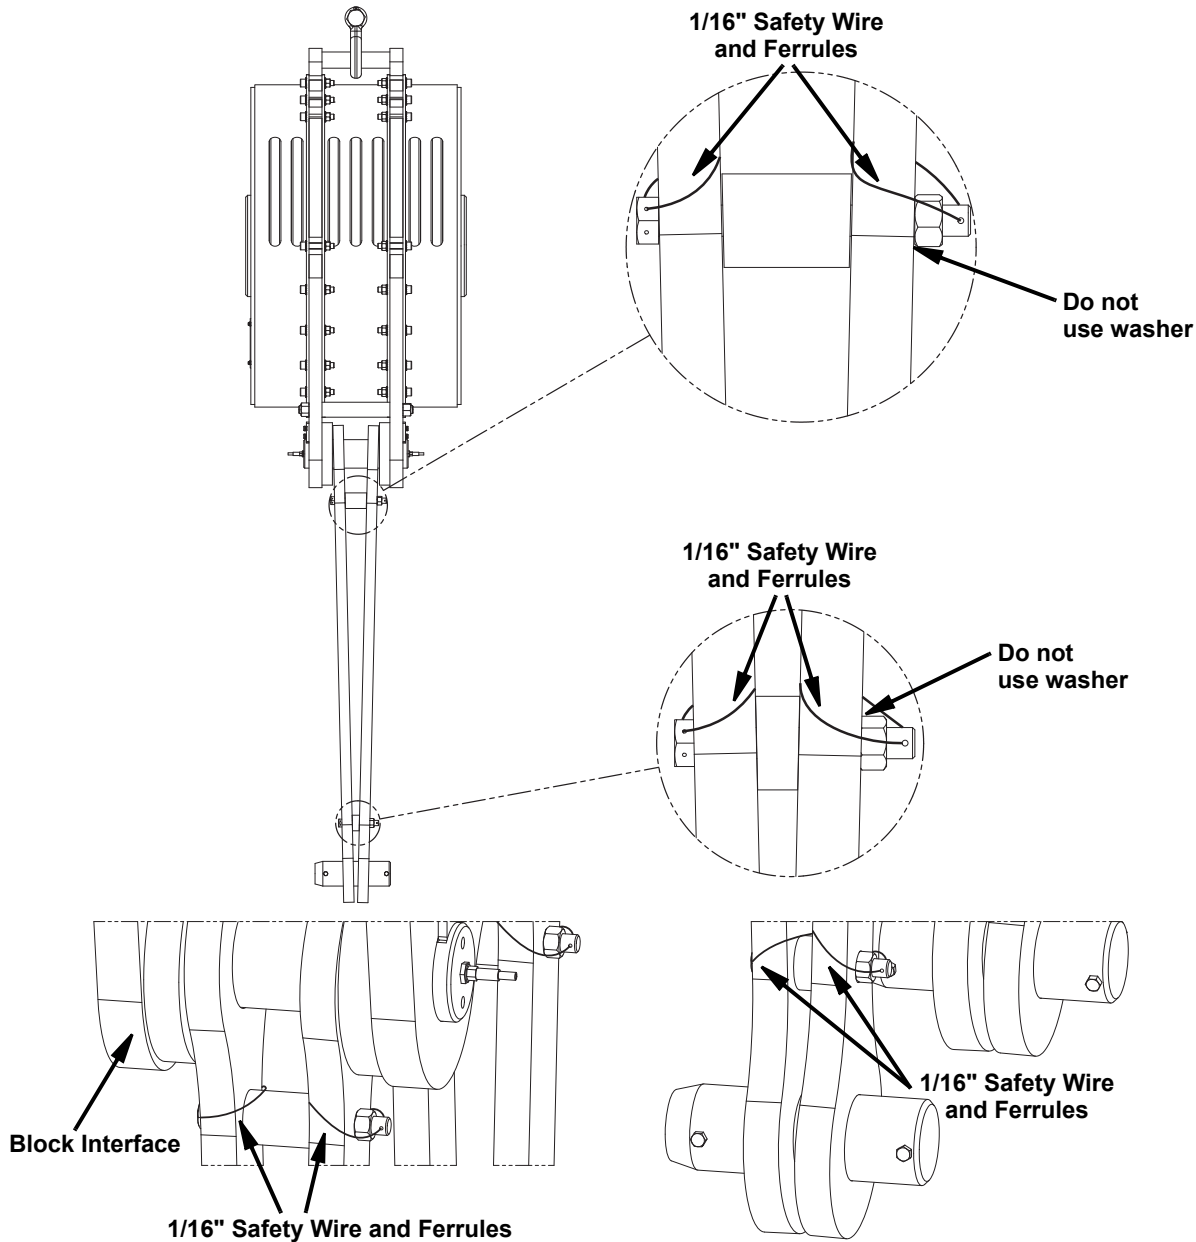

Figure 2: Upper Link Safety Wire Detail
4. Install safety wire and ferrules on bolts as follows: (See Figure 2)